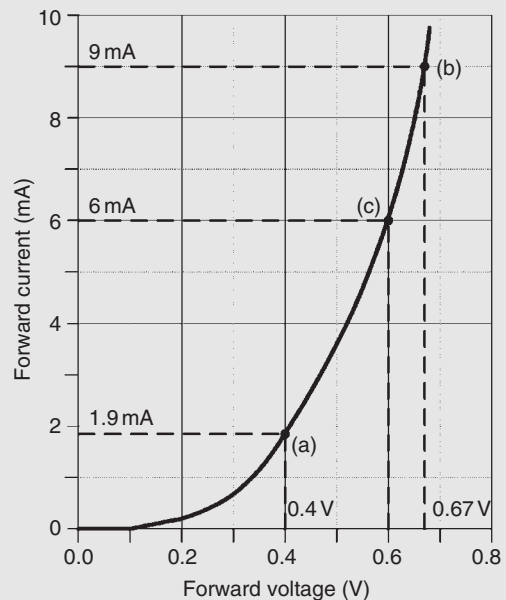

Figure 11.11
**Problem 4.** The forward characteristic of a diode is shown in Fig. 11.11. Use the characteristic to determine (a) the current flowing in the diode when a forward voltage of 0.4 V is applied, (b) the voltage dropped across the diode when a forward current of 9 mA is flowing in it, (c) the resistance of the diode when the forward voltage is 0.6 V, and (d) whether the diode is a Ge or Si type.
- (a) From Fig. 11.11, when  $V = 0.4\text{ V}$ , **current flowing,  $I = 1.9\text{ mA}$**